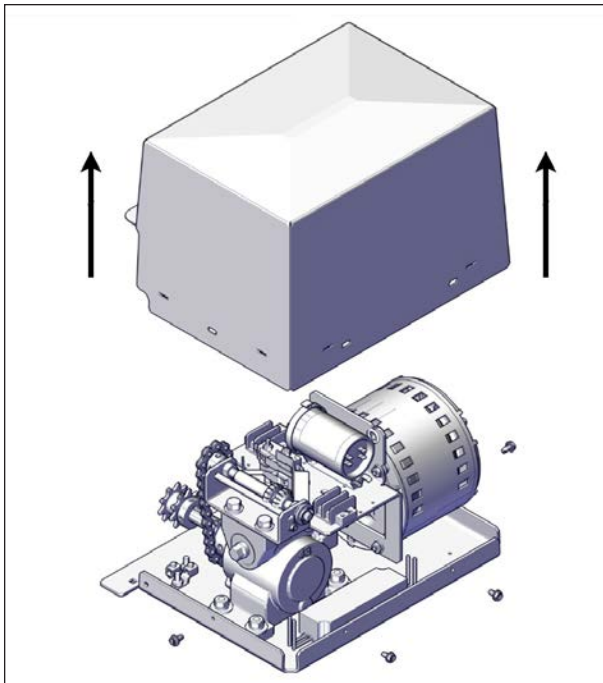

FIGURE 70: OPERATOR COVER REMOVAL
2. Remove the four screws at the bottom of the operator cover, and remove the cover as shown in Figure 70.